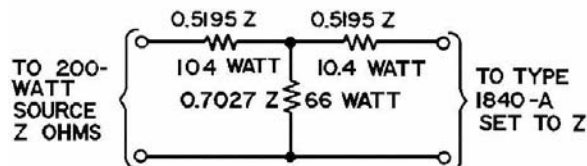

Figure 4. “T” = Network attenuator.
To use the Type 1840-A with sources of higher power (up to 200 W), a “T”-network attenuator (Figure 4) should be used. To find the proper impedance (Z), operate the source below 20 W. The resistance can then be calculated and the proper values can be inserted in the circuit.
Connect the “T” attenuator (Figure 4) between the source and the Type 1840-A. The attenuator adds 10 db to the meter-switch indication, and the meter now reads 200 watts full-scale.